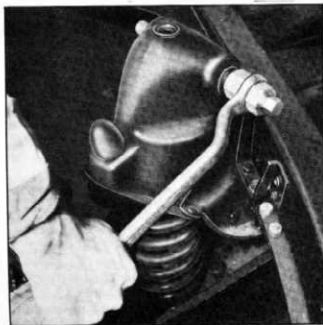

Fig. 24—Removing Upper Control Arm Shaft
7. Remove seals from ends of upper control arm shaft and using Upper Control Arm Shaft Remover and Replacer J-2958 (fig. 24) remove upper control arm shaft from spring housing from rear to front.